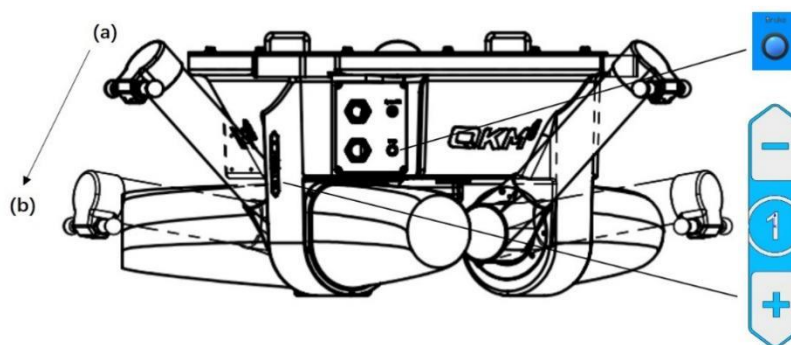

Figure 3-5 Adjust the position of the active arm
Step 1: Ensure the robot is in the lower servo position. Remove cables, air pipes, and other fixed components from the driven arm. After removing the end load from the moving platform and confirming safe operation, have two operators assist: one presses the Brake button (as shown in Figure 3-5), while the other pulls the moving platform to contact the ground or conveyor belt surface to prevent the platform's end from dropping after removing the driven arm. Finally, perform power-off procedures on the robot.